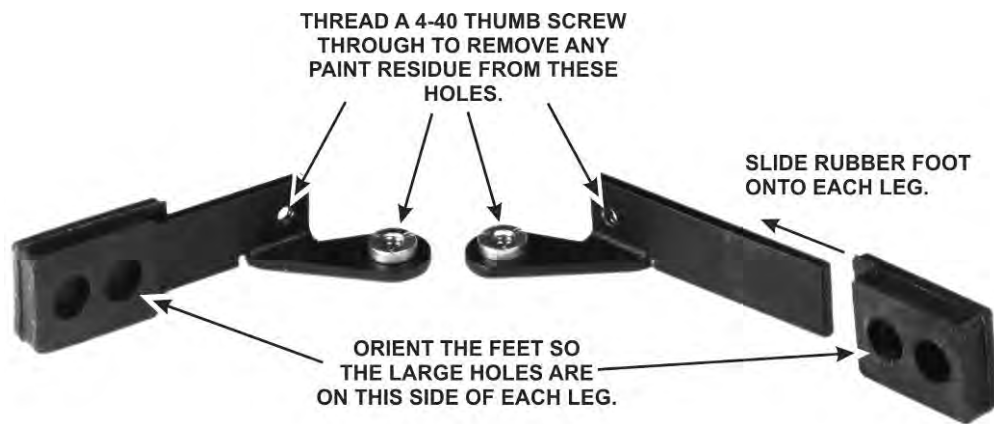

Figure 29. Preparing Tilt Legs for Installation – Part 1.
- Use the black thumb screw to clear any paint from the threaded holes in the tilt legs (see Figure 29).
- Slide the remaining two rubber feet onto the tilt legs as shown in Figure 29. The feet are held in place by friction. Be sure you work the feet all the way onto the legs as shown.